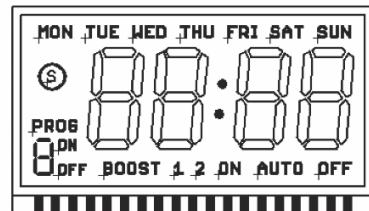

Figure B-2: Full display
2. A full display will show when the battery is charged, then revert to the default screen (---). No display indicates that the battery requires charging for a minimum 3 hour period. See Figure B-2 for a representation of the screen's "full display".